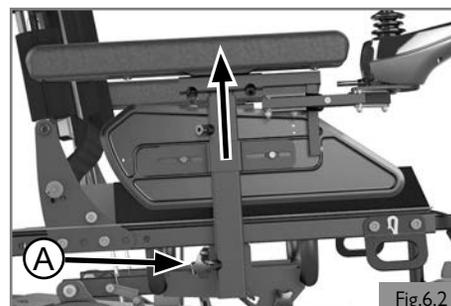
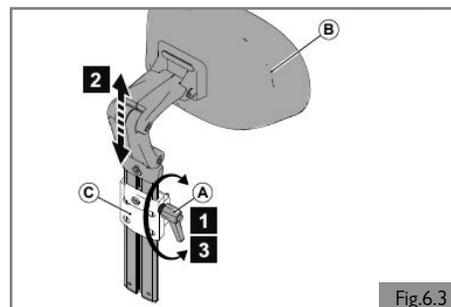

Fig.6.2
Fig.6.3
**Height adjustable armrest (Fig. 6.2)**
1. Turn lever (A).
**Removing/positioning the headrest (Fig. 6.3)**
1. Lift (A).
2. Slide (B) out of or into (C).
3. Push (A) down.